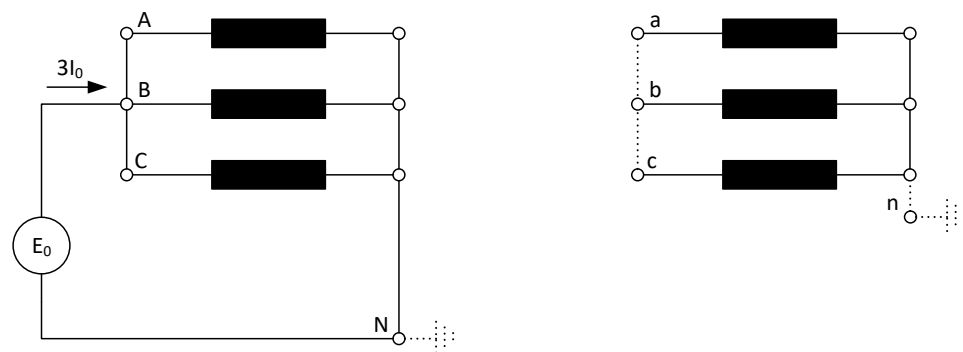

Figure 4: Test circuit for Y winding. Determination of  $Z_{013}$ . Not applicable if Y winding is without neutral point connection.
5. Any yoke winding is not required to be tested. It should not have a return path for zero-sequence current when tests are performed on other windings (connected as y winding in Yny transformer on Figure 4)